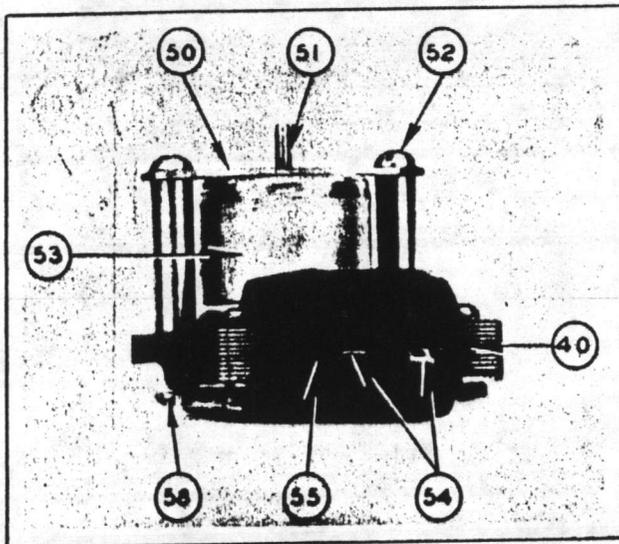

FIGURE 10. REPLACEMENT MOTOR (LESS PINION)
2. Motor unit complete as in Figure 10.